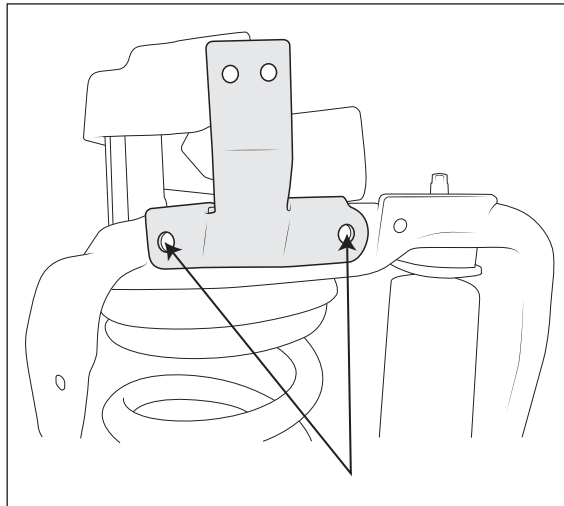

Figure 8
3. Install reservoir bracket. These are sided, the tabs should point inward toward center of vehicle and the longer leg of the mount toward the rear. Place it on spring tower so that the flanges sit on top of the tower edge and the mounting tabs are centered between welded gussets (fig. 8). NOTE: some vehicles with excessive welding will need weld ground flush for bracket to sit flush.